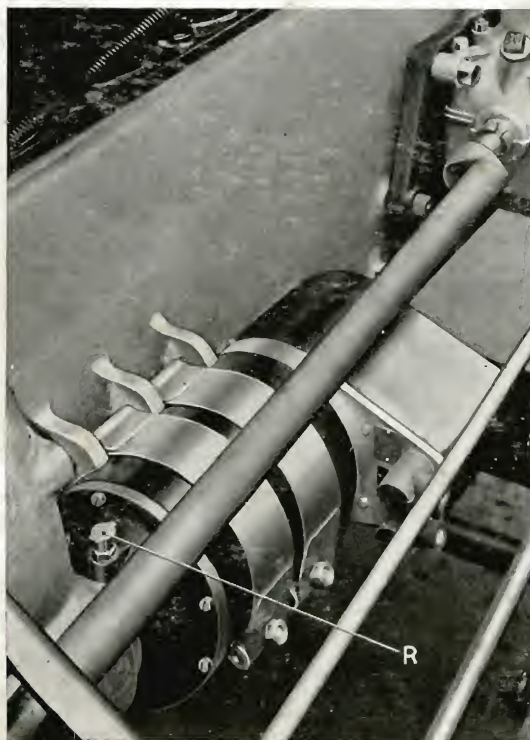

Fig. 9.
A few drops of engine oil should be given periodically through the oil cup (R), Fig. 9, on all types of starter except that fitted on four-cylinder petrol engines. This type is graphite lubricated and only requires attention at overhaul.